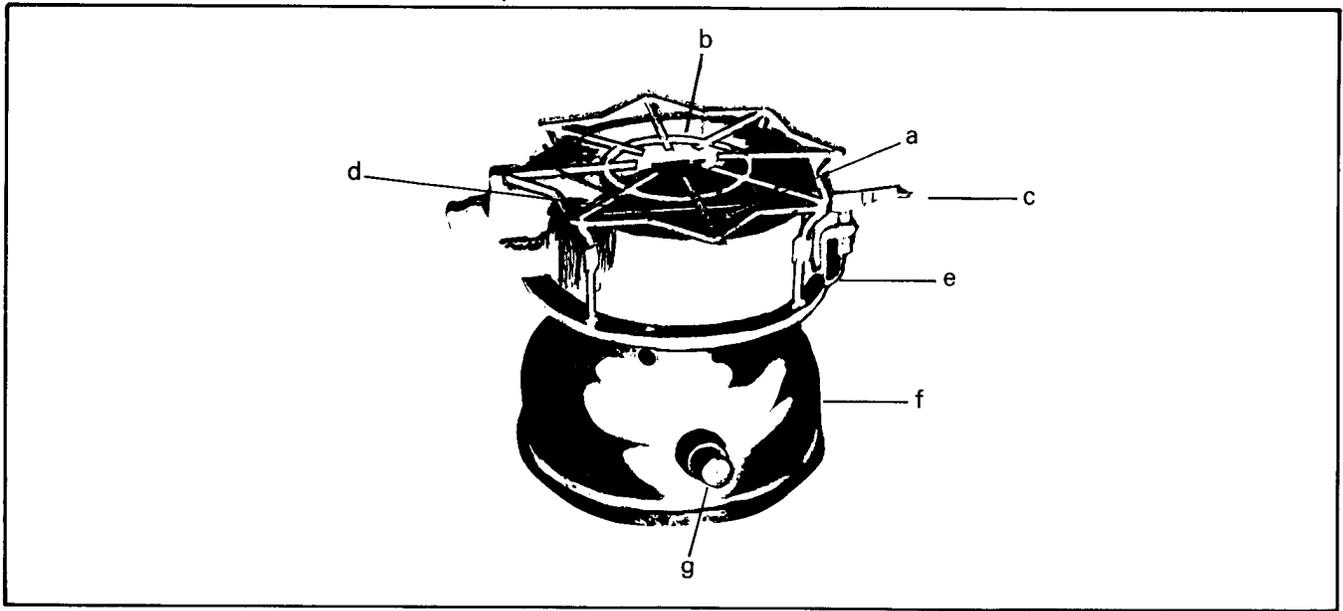

Figure 2-11 — Stove C1B1
86. The main outer parts are, as shown in Figure 2-11: